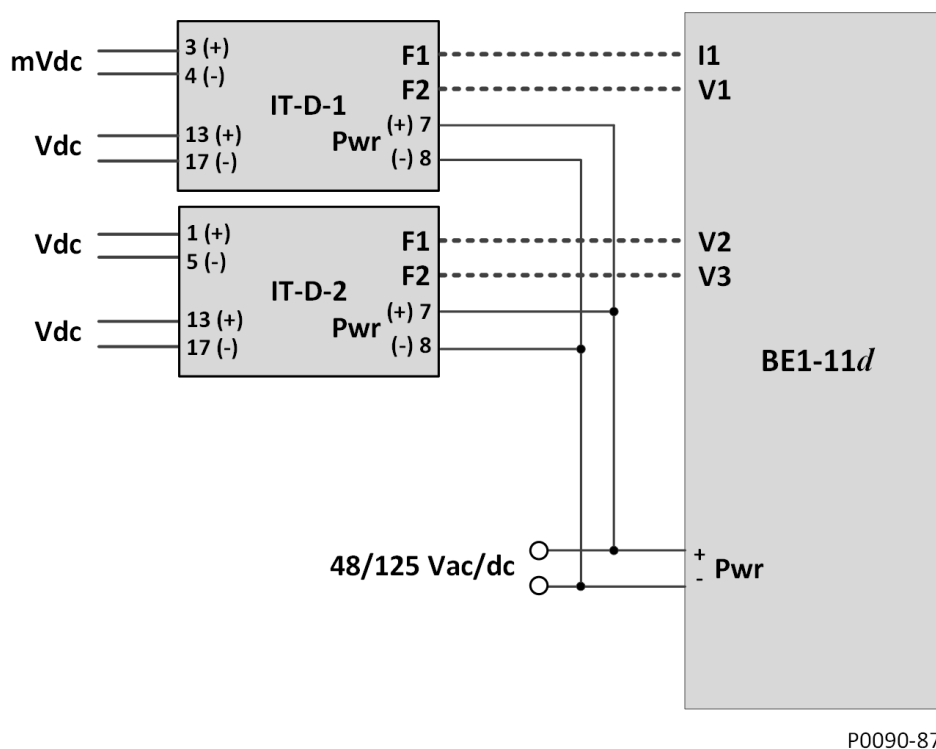

Figure 41-1. IT-D to BE1-11d Connections
- Step 2: Connect the IT-D module(s) to the BE1-11d as shown in Figure 41-1.
- Step 1: Connect the IT-D modules to the BE1-11d as shown in Figure 41-1.